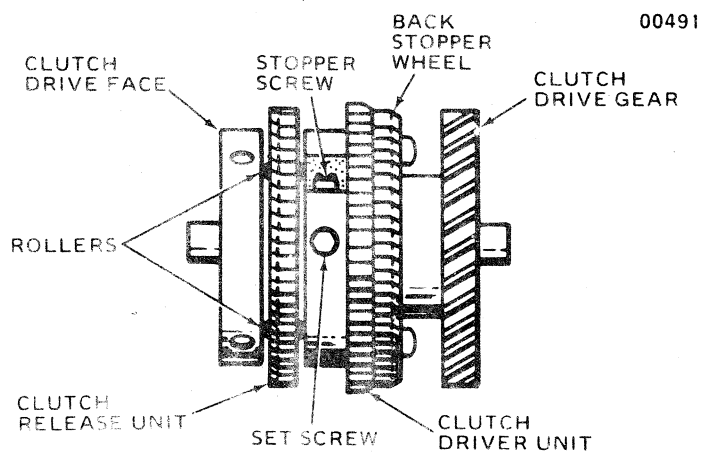

Figure 3-13. STOPPER SCREW ADJUSTMENT
3. Stopper Screw Adjustment (Refer to Figure 3-13)